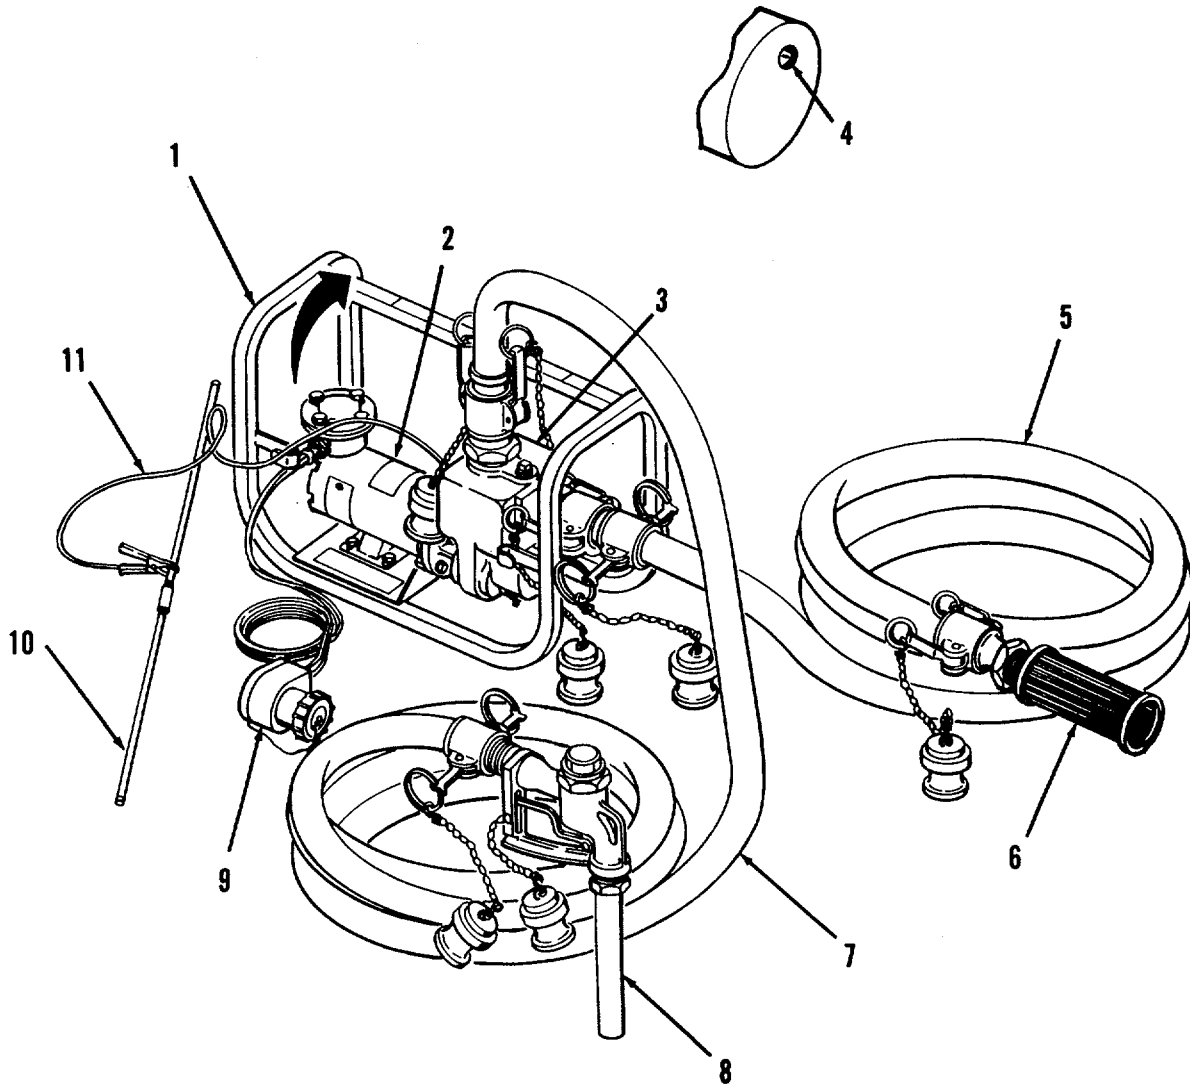

Figure 1-2. Location of Major Components.
1.13. LOCATION AND DESCRIPTION OF MAJOR COMPONENTS. The following major components of the pumping unit are described below and are located as shown on FIGURE 1-2.
1.1 5. THEORY OF OPERATIONS. The pumping unit is a self contained, transportable, electric motor driven centrifugal pump unit designed for pumping liquid fuel. It consists of a self-priming pump, a 24 volt direct current electric motor, and a frame for mounting the pump and motor together for easier transportability. The pumping unit performs its pumping operations in the following manner (Refer to Figure 1-2).